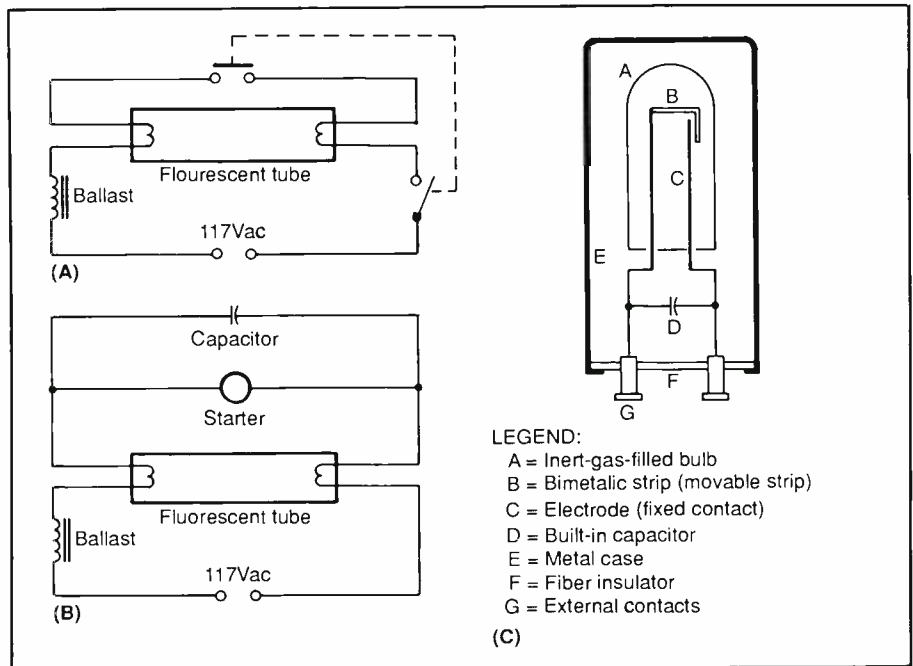

Fig. 1. Manual-start (A) and automatic-start (B) circuits for preheat-cathode fluorescent tubes and internal details (C) of glow-switch starter.
Being a preheat-cathode type of tube, the F15T8BL's electrodes must be preheated before high voltage is applied. Tubes designed for such operation have two connector pins at each end that are used to apply the heating current to the electrodes inside the tube. Preheating takes a few seconds and can be accomplished manually with the circuit arrangement shown in Fig. 1(A). Alternatively, preheating can be auto-
matically with the circuit arrangement shown in Fig. 1(B).
The manual switch in Fig. 1(A) is a pushbutton arrangement made up of one pair of line contacts and one pair of momentary-action contacts. The line contacts place the tube's electrodes in series across the output of a ballast when the button is pressed and held in that position for 2 to 3 seconds. During this period of time, the momentary-action contacts allow current to flow through and heat both elements. When the button is released, the line switch remains closed, but the contacts of the momentary-action switch spring open, disabling the current flow through the filaments.